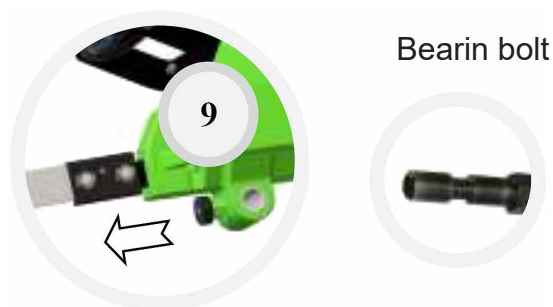

Fig.7
- Slide the saw onto the bearing bolt of the clamp and fix it with the locking device 9 (ref. to fig. 7).